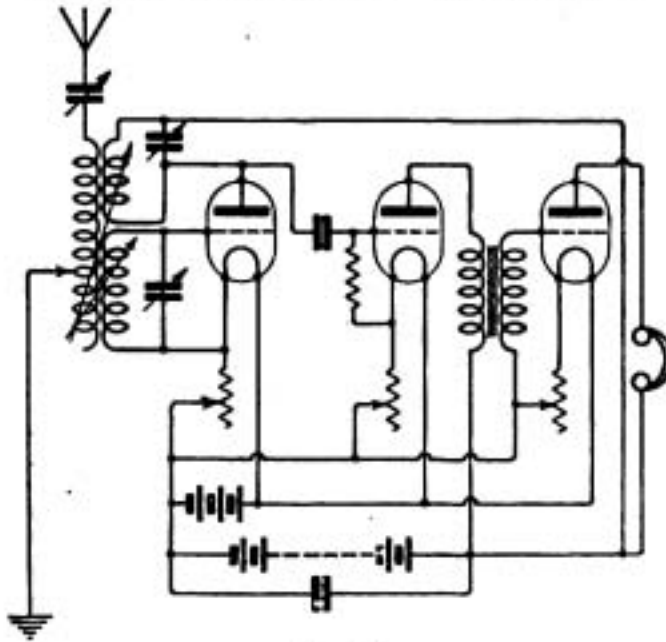

Fig. 8.
(1) Yes. (2) and (3) Yes. (4) See Fig. 8.